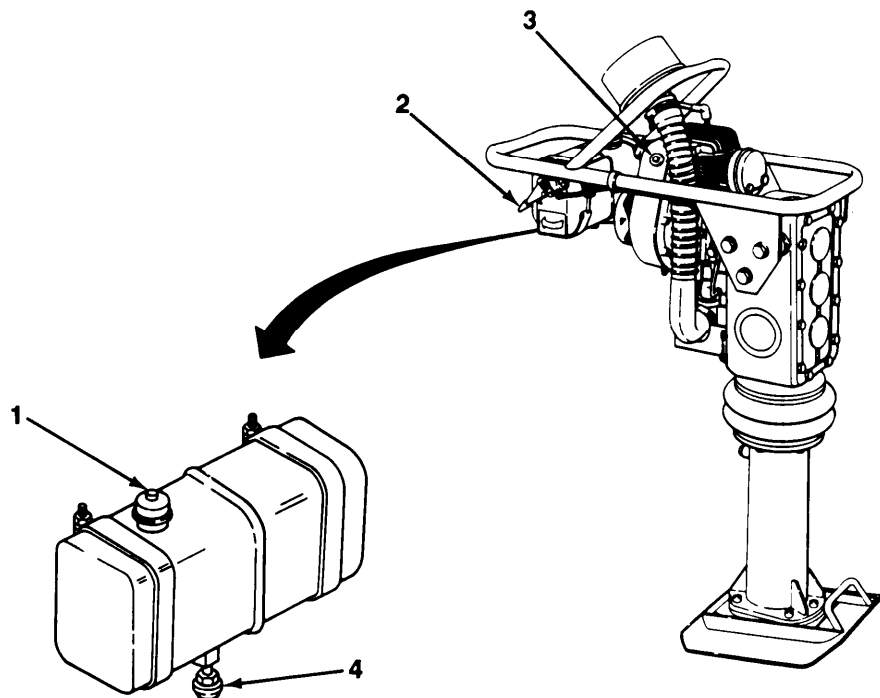

Figure 2-2. Stopping Tamper.
- Refer to Figure 2-2, *Stopping Tamper*, for steps a through d.
- a. Lower throttle control lever (2).
- b. Push shorting switch (3).